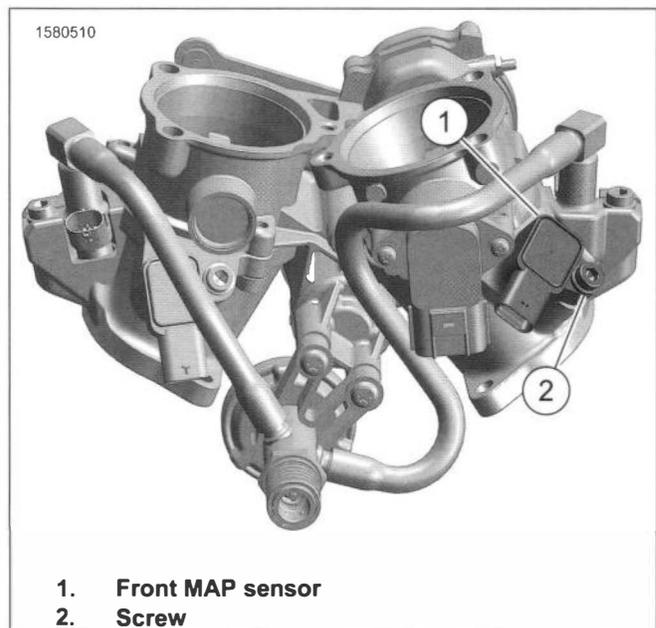

Figure 6-26. Front MAP Sensor
1. See Figure 6-26. Remove MAP sensor.
- a. Remove screw (2).
- b. Remove MAP sensor (1).
1. See Figure 6-26. Install front MAP sensor (1).
2. Install screw (2). Tighten.